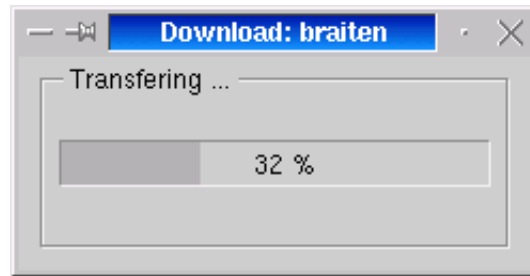

Figure 2.15: Downloading a cross-compiled controller
- If the controller has cross-compiled correctly, a popup window should inform you that the binary file is being transferred to the real robot (figure 2.15). After that, the controller will be automatically executed on the robot. If the robot has on-board batteries, you might want to unplug it from the serial connection.